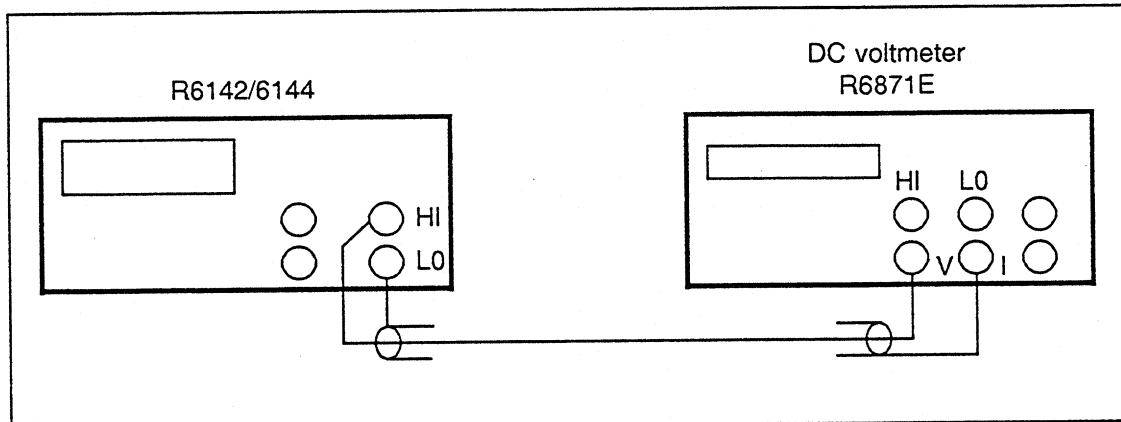

Figure 4-7 Cable Connection for Voltage Limiter Test
① Connect the R6142/6144 to the R6871E as shown in Figure 4-7.